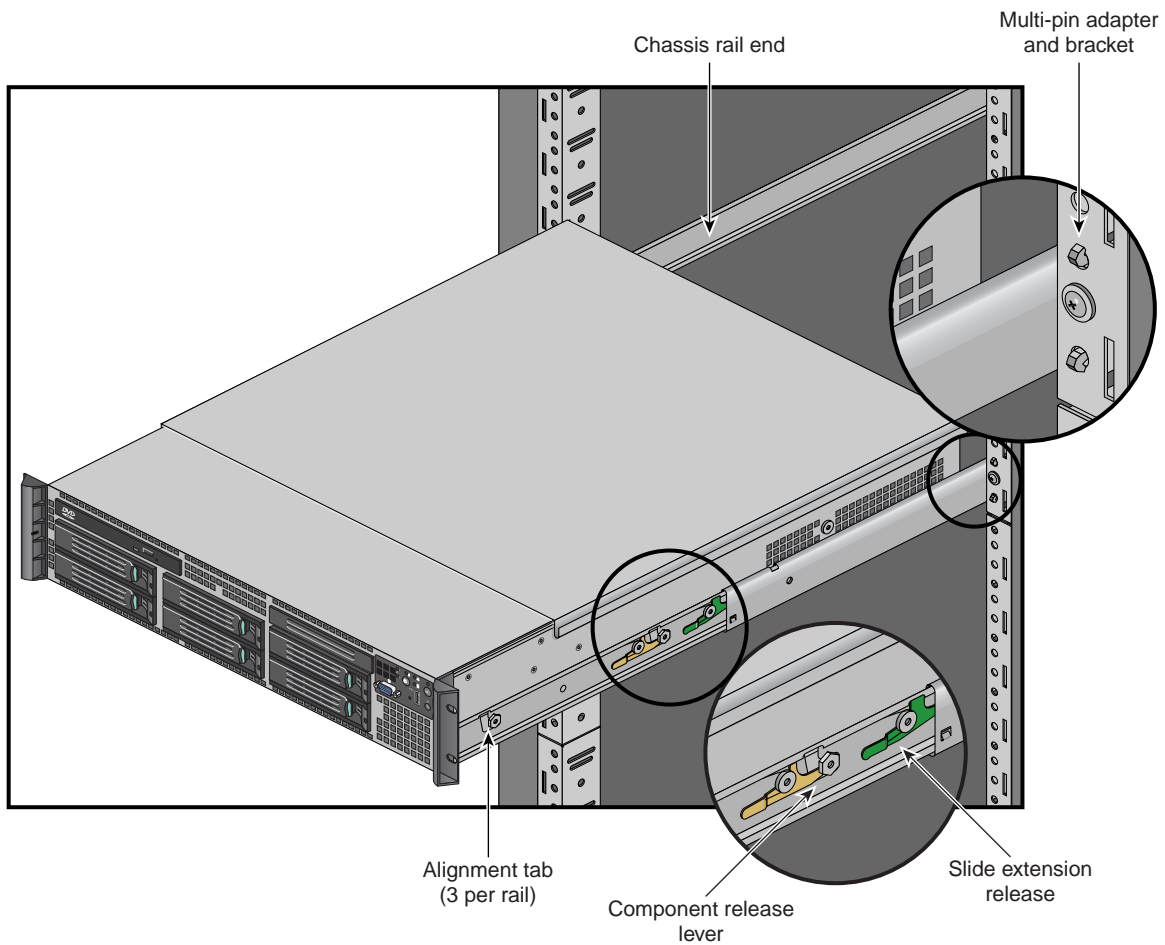

Figure 1-8 NAS Appliance Slide Rails
Position and secure the support rails in the rack using the information in the following steps and Figure 1-8 on page 12.
5. Confirm that all the NAS appliance's mounting studs are correctly in place on the slide rails (see Figure 1-8 on page 12 for an example), before sliding the unit into the rack.